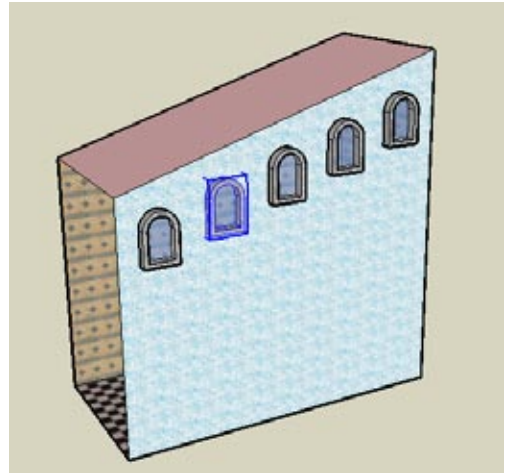

Figure 1-37
- Using the method demonstrated in Recipe 1.1, enter the number of copies you want (say, $4x$) and adjust the spacing to get a line of sloped windows (Figure 1-37). The spacing is the distance measured along the diagonal edge.